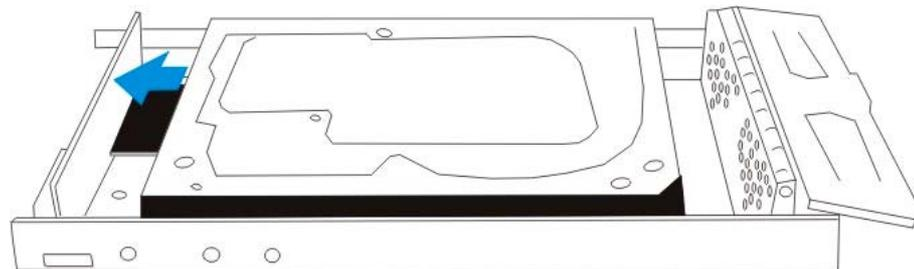

Figure 2-9: Connect the SATA Drive to the SATA-to-SATA MUX Kit
Step 3. Connect the drive to the MUX kit. Once the drive tray is laying flat in the drive tray, slide it towards the rear of the drive tray until a solid connection between the drive connector and the MUX kit connector has been made. (See *Figure 2-9*).